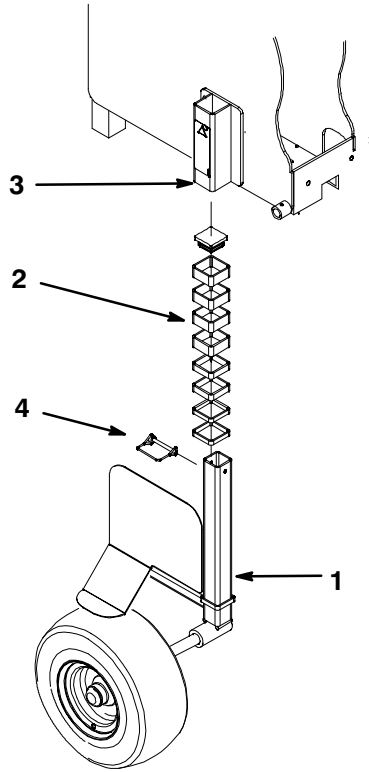

Figure 4
8. Raise the aerator off of the ground until you can get the wheel leg under the wheel mounting bracket (Fig. 4).
10. Install the spacers onto wheel leg as shown in figure 4.
11. Install the leg of the wheel assembly up through the bottom of the wheel mounting bracket (Fig. 4).
12. Install the remaining spacers above the bracket for storage (Fig. 4).
13. Secure the wheel assembly with a locking pin (Fig. 4).